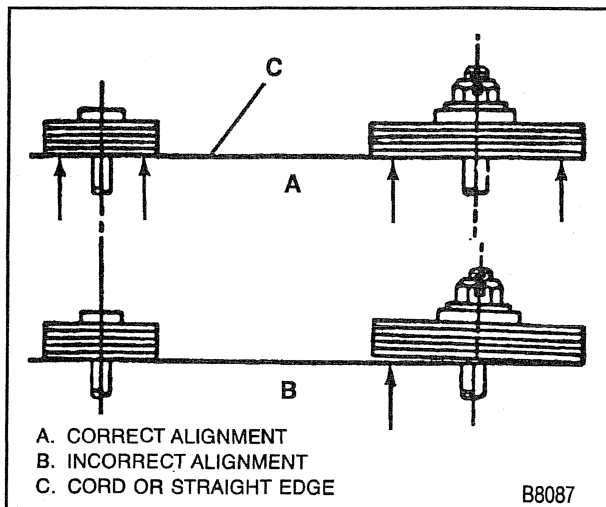

Figure 34—Checking the Pulley Alignment
1. Place a straightedge or position a cord across the two pulleys so they touch at all points (figure 34).